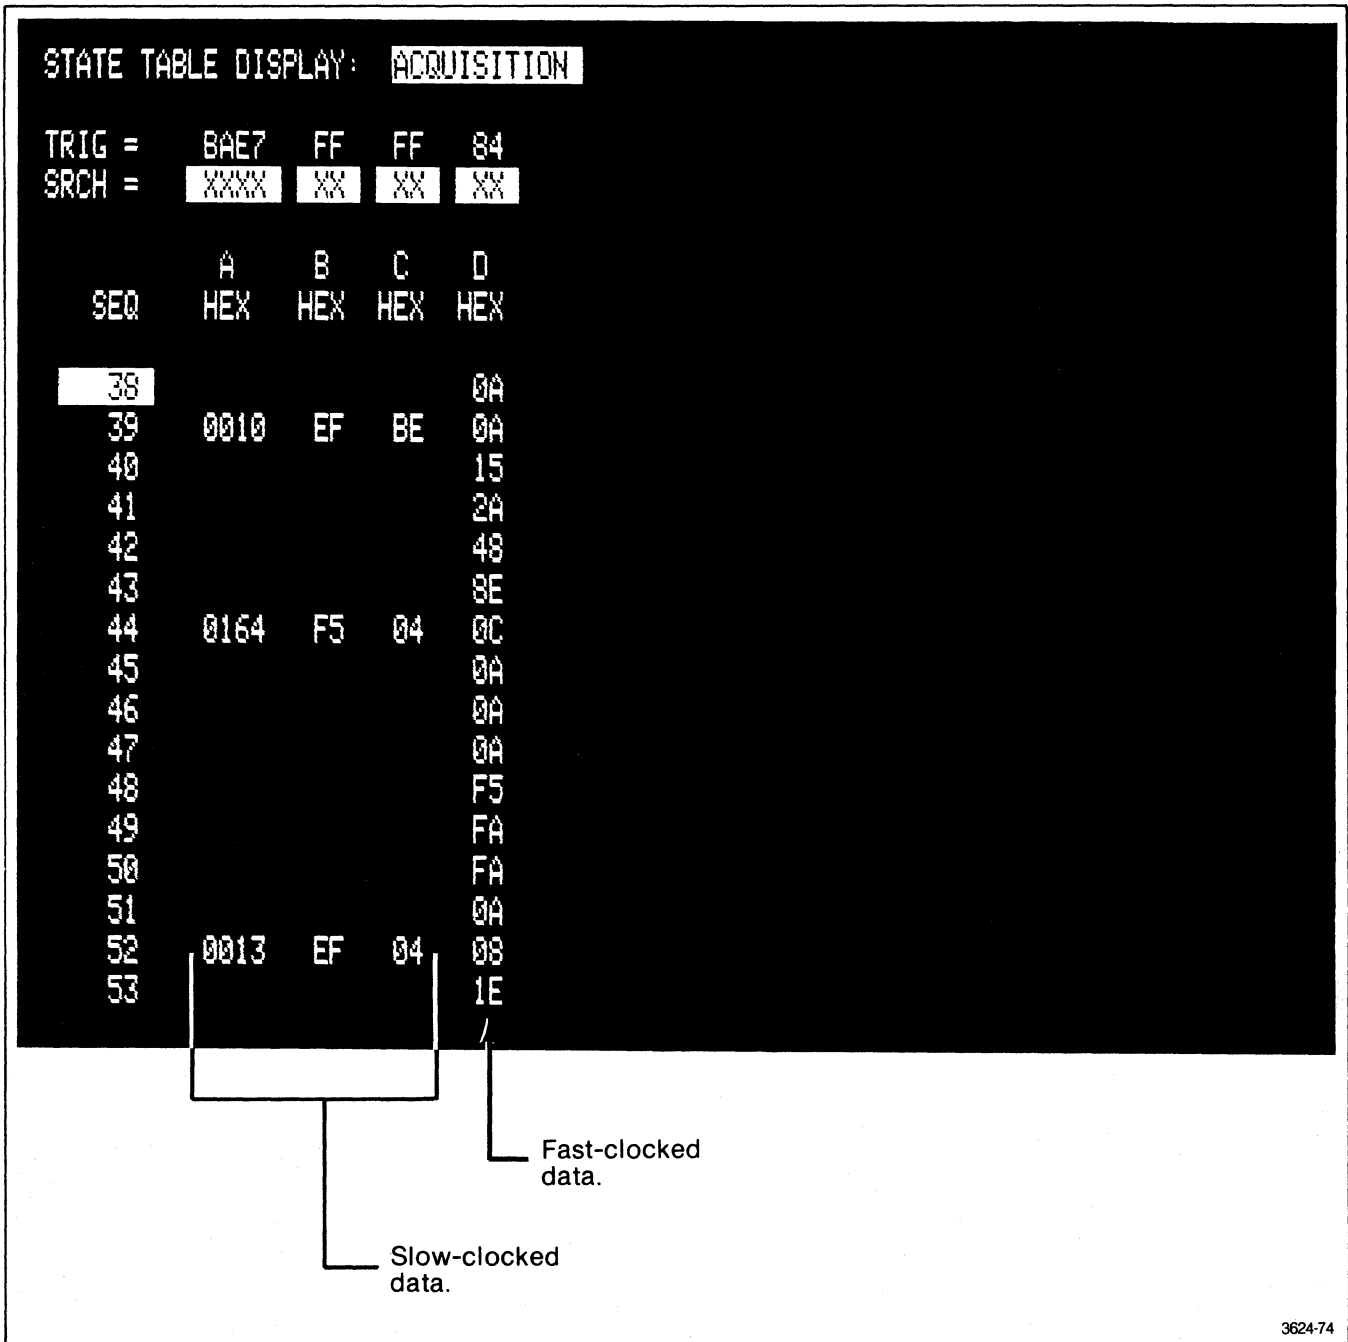

Figure 5-4. A State Table display of ARMS acquisition. The State Table provides a time-aligned display of slow- and fast-clocked data.
**ARMS Acquisition Display.** Another format of the State Table is the ARMS acquisition display. In this format, the differing time relationship between the slow-clocked and fast-clocked data is incorporated into the display. Figure 5-4 illustrates a State Table display of ARMS acquisition data.